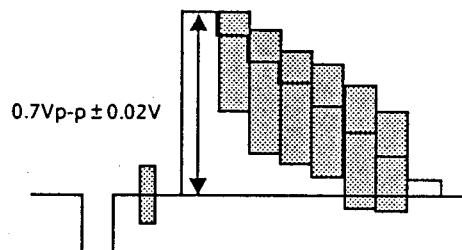

Fig. 4-13
- While observing the waveform monitor, adjust VR45 so that the Y signal (White Bar) level becomes $0.7V_{p-p} \pm 0.02V_{p-p}$. (Fig. 4-13)